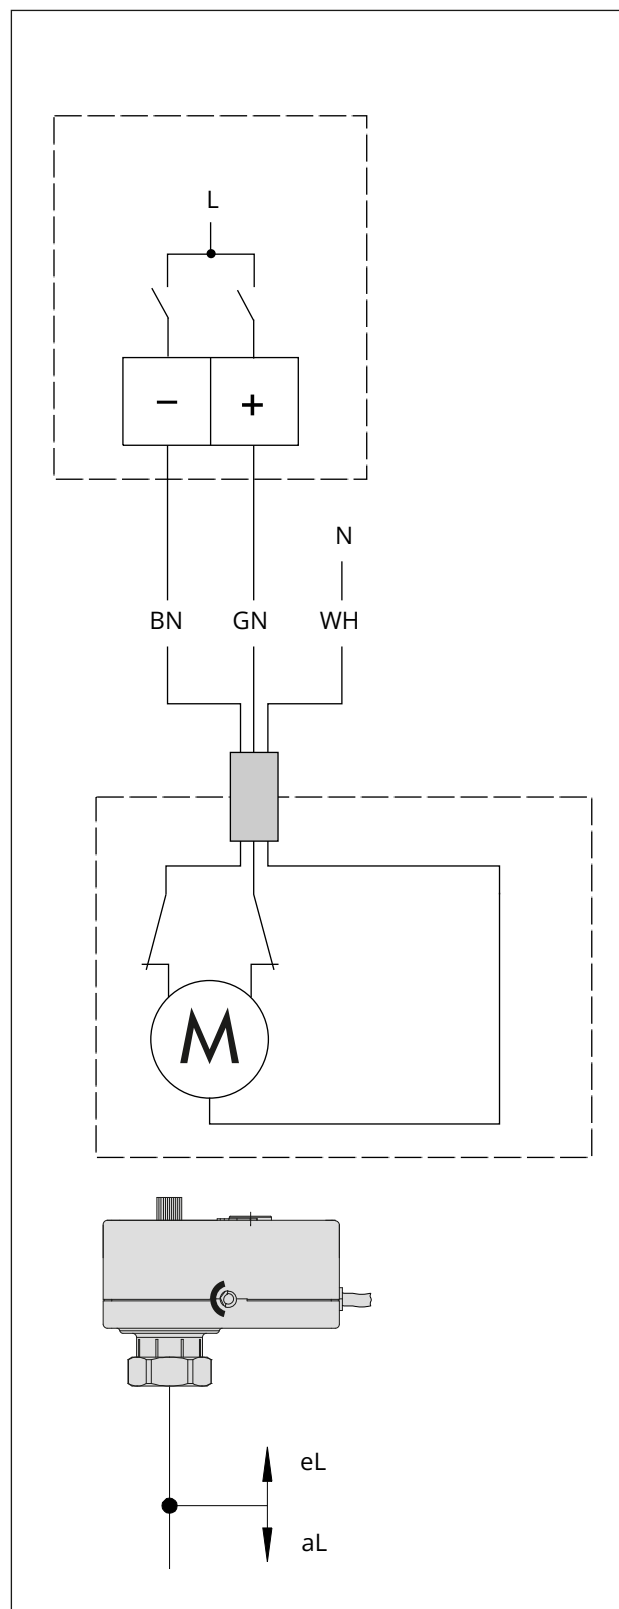

Fig. 6: Electrical connection · Three-step control
- ⇒ Connect the wires of the three-wire connecting cable as shown in Fig. 6.